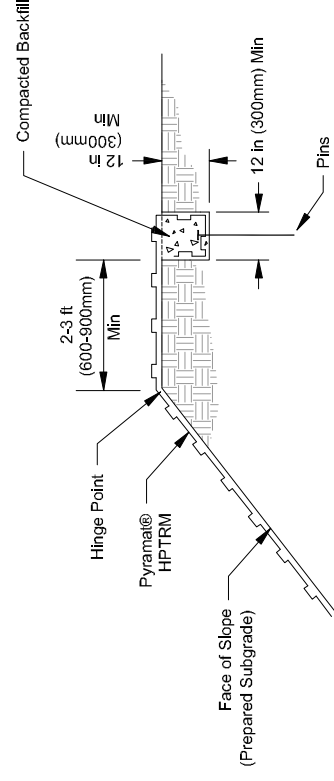

FIGURE 2: INITIAL TRENCH AT TOP OF SLOPE DETAIL
- Excavate initial trench 12 in wide x 12 in deep (300 mm x 300 mm) minimum 2-3 ft (600-900 mm) over crest of slope (see Figure 2).
- Beginning at the downstream end of prevailing winds, place roll end into the initial trench and secure with pinning devices on 12 in (300 mm) centers (see Figure 2). Position adjacent rolls and secure in trench in same manner. Backfill and compact soil into trench as directed and approved by Engineer.